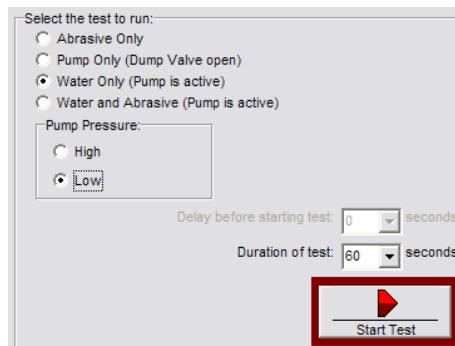

Figure 4-19: Pump and Nozzle Test Options
- Select **Water Only (Pump is active)** and **Low**, then click **Start Test** (Figure 4-19).
- If necessary, click the **Test** button to again display the nozzle test options (refer back to Figure 4-19).
- Select **Water Only (Pump is active)** and **High**, then click **Start Test** (see Figure 4-19 for options).
- a. If necessary, click the **Test** button to display the nozzle test options (refer back to Figure 4-19).
- b. Select **High**, then click **Water and Abrasive** to begin the test (see Figure 4-19).
- c. Click the **Test** button to display the nozzle test options (refer back to Figure 4-19).